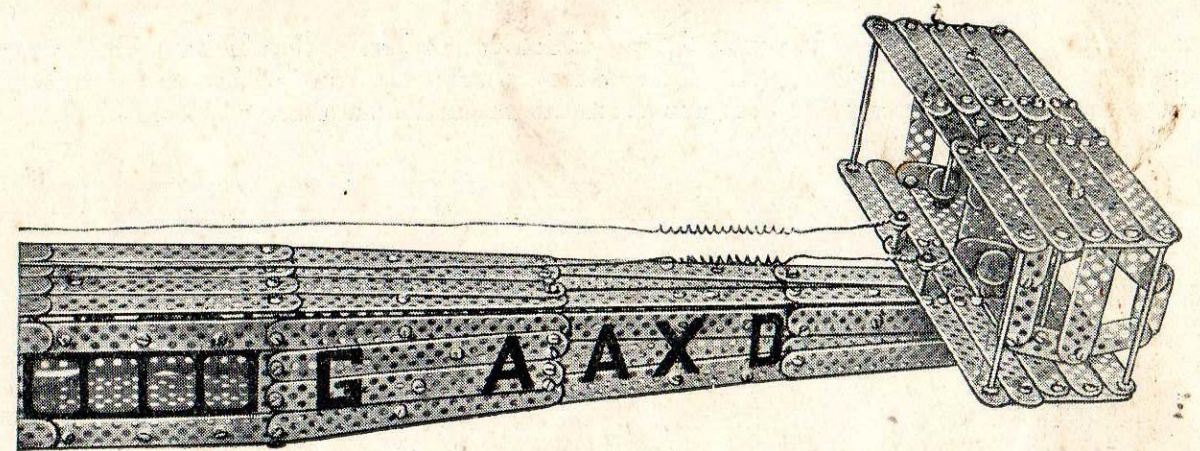

Fig. 10. Rear fuselage and tail of completed Air Liner.
celluloid fore compartment and cabin windows. The international registration number G AAXD can be painted on as shown in Fig. 10. The three extra parts that are seen under the nose of the liner are: (1) the Wind Direction Indicator, fitted foremost, (2) the Trailing Aerial Tube, made of an S 25, and (3) the Wind-driven Generator. The wireless aerials run from two S 25's fixed above the control compartment to two S 25's on the lower tail plane.